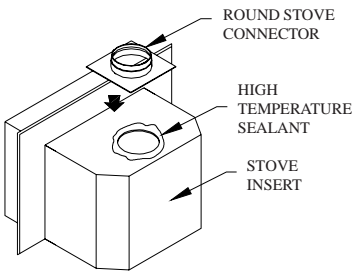
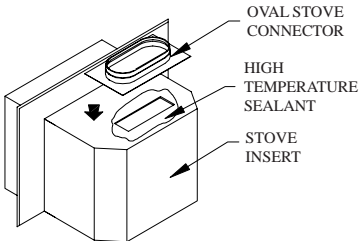

Fig. 11a
Fig. 12
**STEP FIVE:** Stove top connector - round and oval. Attach the proper Stove Connector to your insert or stove. (See Figure 3) The DuraLiner round Stove Connector fits either a top vented found flue appliance or a rear vented round flue appliance. Place the proper sized connector over the flue exit and mark on the insert or stove the locations of the holes where the connector will be attached. (See Figure 11a or 11b) Drill and tap hole in top or rear of appliance or use self tapping screws. Before attaching permanently, put a bead of high temperature sealant between stove connector and insert. (See Figure 11a and 11b)
The DuraLiner oval Stove Connector fits on top vented appliances or inserts with oval or rectangular openings. (See Figure 12) Attach same as in round openings. (See Figure 11a)